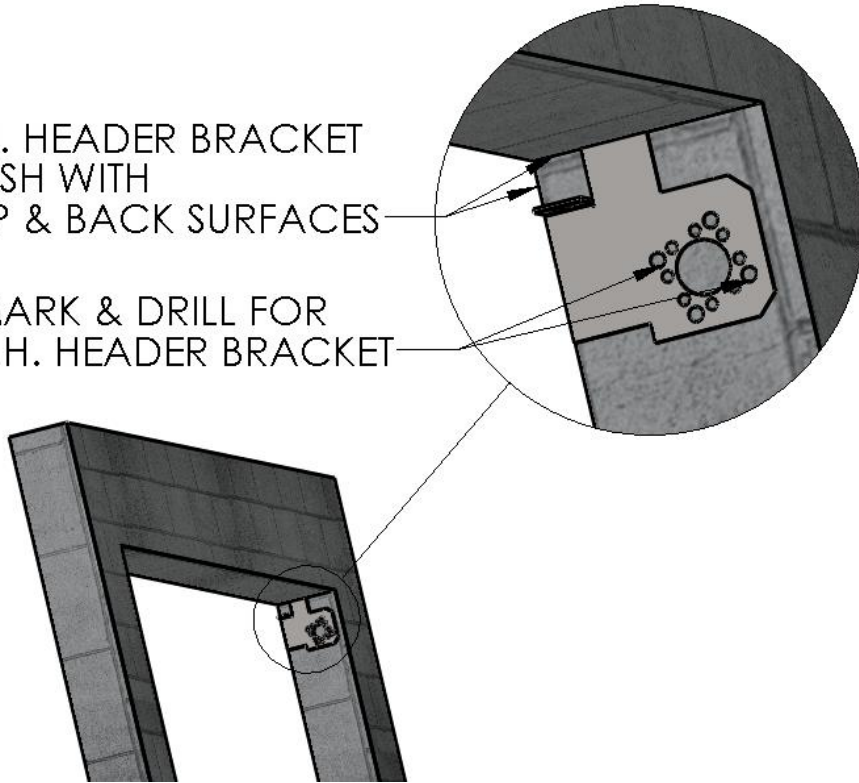

Figure 1 LOCATE R.H.HEADER MOUNTING BRACKET
1. At the upper Right of the door opening, use the R.H. Header Mounting Bracket to transfer hole locations to the mounting surface.(Figure 1 LOCATE R.H.HEADER MOUNTING BRACKET)